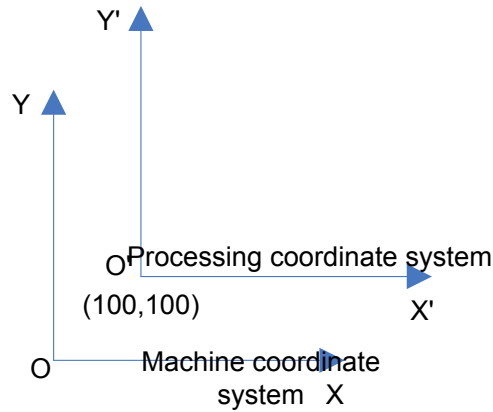

Fig 4-4 Offset of the machining coordinate system
**originPos[x] :** specify the profile position of origin, that is offset relative to machine coordinate system. Establishing a machining coordinate system as shown in Fig 4-4.